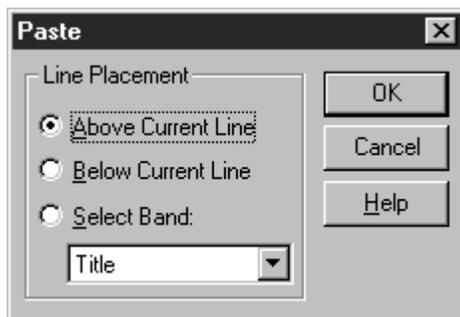

Figure 3.6 Paste Lines Dialog
3. The Paste dialog (see Figure 3.6) presents the following options: Above Current Line, Below Current Line, and Select Band. Selecting Above or Below pastes the line(s) either above or below the current line. The band type of the pasted lines will be the same as that of the current line.